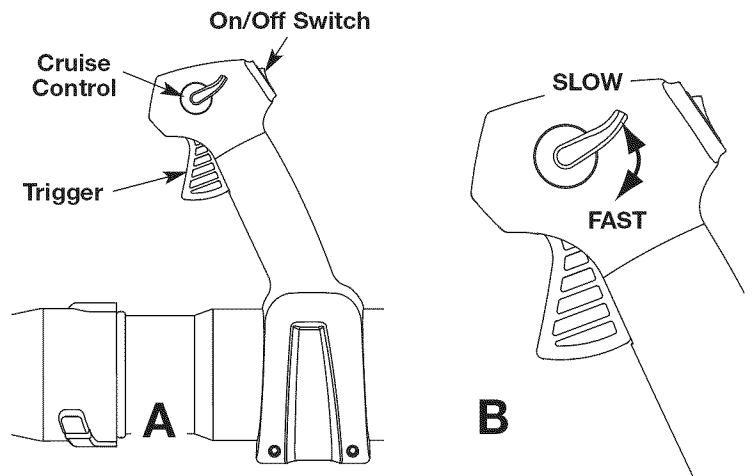

Fig. 16
NOTE: The unit should be started in idle. Do not squeeze the trigger while starting (Fig. 16, A).
1. Once the engine has started and warmed up, squeeze the trigger to accelerate the unit as needed (Fig. 16, B).
2. For longer periods of operation and to eliminate possible finger fatigue, move the cruise control toward the FAST position to incrementally increase or maintain the unit's engine speed (Fig. 16, B). When the cruise control is pressed, the trigger will recede into the handle.
3. To decrease engine speed, move the cruise control to the SLOW position and the trigger will return to idle position (Fig. 16, B).
2. Press the On/Off Stop Control switch in the OFF (O) position and hold until the engine comes to a complete stop (Fig. 16, A).
- Use the cruise control (Fig. 16) to keep the trigger depressed while operating to make continuous operation easier.